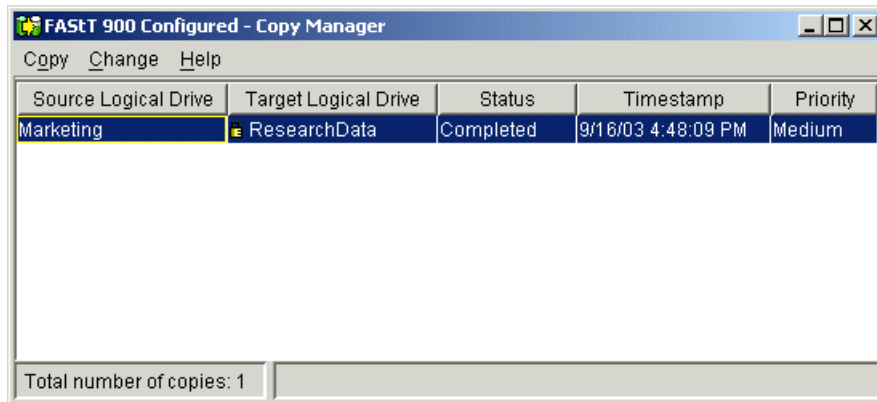

Figure 9-14 Copy Manager
2. The Copy Manger window is displayed (Figure 9-14 on page 297).